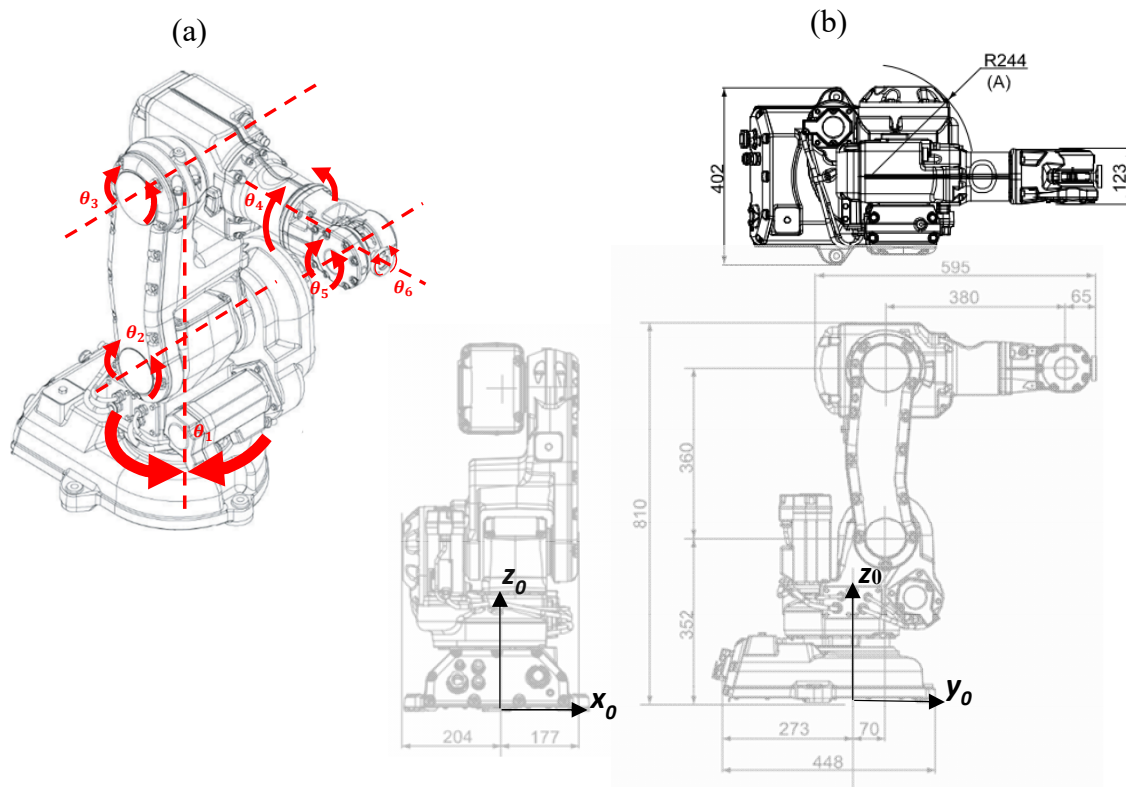

Figure 4
4. An illustration of an industrial robot (ABB IRB140 robot) used for spraying or welding is shown in Figure 4(a) without its end effector. The arm has six joints: $\mathbf{q} = \{\theta_1, \theta_2, \theta_3, \theta_4, \theta_5, \theta_6\}^T$.
- (a) Given the base coordinate system in Figure 4(b), draw and specify the right-handed coordinate systems i ($i=1$ to 6) of the robot up to the wrist joint. (Note: Sketch a skeletal diagram in isometric view & provide the positions and directions of the coordinate systems in your answer.) (10 marks)
- (b) Tabulate the Denavit-Hartenberg (D-H) parameters for the position of the robot shown in Figure 4 for joints 1 to 6, according to the coordinate systems specified in part (a). Note that θ_i ($i=1$ to 6) are the joint variables. (6 marks)
Figure 4 appears on page 5.